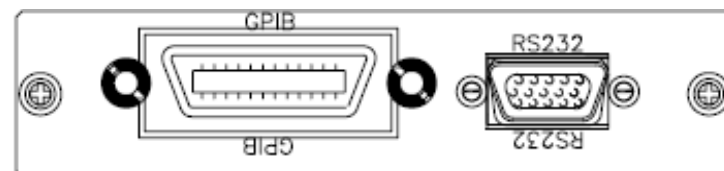

Fig 2-7 3350F GPIB & RS232 Connection
- 2.17.4. Fig 2-7 shows the RS-232C connector (Female) on the rear panel Connects 3350F Mainframe to RS-232C port of computer in one by one Configuration .The RS-232 BAUD-RATE can be set in the front panel, it Will be lit the GPIB Address when press The "SYSTEM" button. Press it Again, it will be lit the BAUD-RATE.